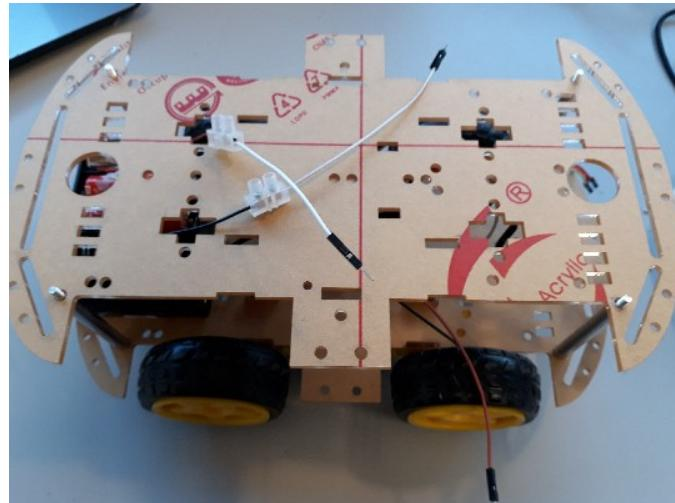

Figure 19: The wires from the bottom of the buggy threaded through the top plate.
Step 16: Once all posts have been securely attached to the base plate, the upper plate can be placed on top of the posts and secured with additional nuts. As the plates are not symmetrical, the plate may need rotating until it can fit properly. Thread the wires from the battery from below up through the top plate as shown in figure 19.